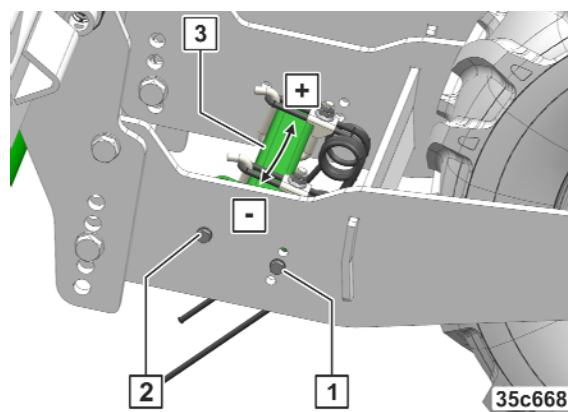

Fig. 200
1. Loosen the nut (Fig. 200/2).
2. Loosen the bolt (Fig. 200/1) and remove it.